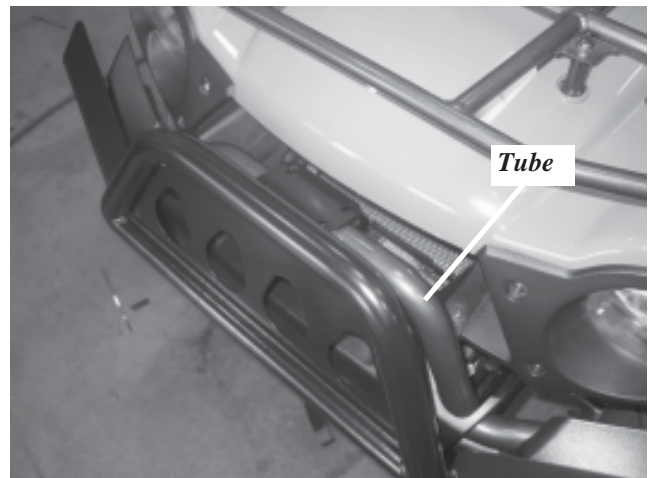

Figure 2
2. Position the bumper so that it rests on top of the front exposed tube, Figure 2.